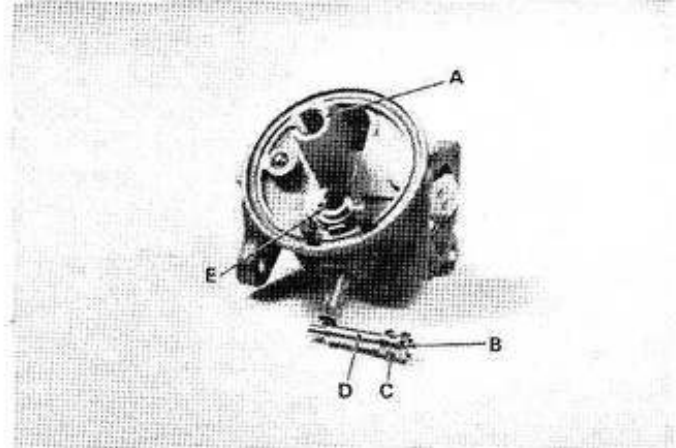

Figure 99. Meter Nozzle Installation.
- d. Next, install the metering nozzle (B). (See Figure 99.)
- f. Hold the carburetor in an inverted position and install a new gasket on the threaded stem ("A" on Figure 99) of the carburetor body.
- h. Center the inside gasket on the threaded hole ("A" on Figure 99) by revolving a screwdriver in the retainer screw hole on the float bowl housing. Place a new gasket on the retainer screw and turn the screw in finger tight.